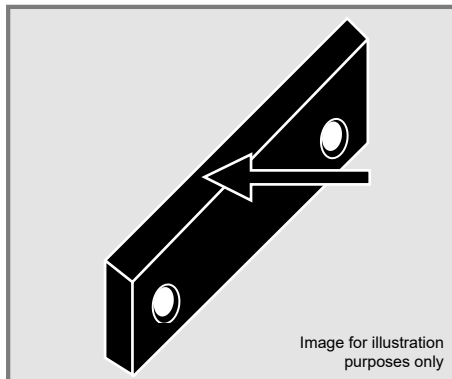

Figure 17
In order to remove the knife, release the screw (1) and the spring washer (2) and the flat washer (3), then, remove the knife (4). Repeat the operation with the two knives, and when removing the knives from the disk, sharpen them in such a way that they keep the ideal cutting line for good operation. To sharpen the palm (cactus) crusher's vertical knives, use a file or other appropriate tool, removing material only from the side indicated according to Figures 17 and 18.